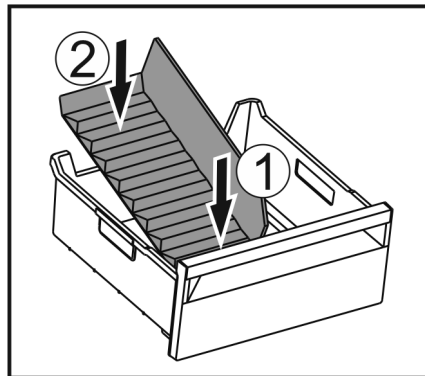

Fig. 167
- ▶ Insert the front part of the ice compartment divider. Fig. 167 (1)
- ▶ Lower the rear part of the ice compartment divider to the drawer bottom. Fig. 167 (2)